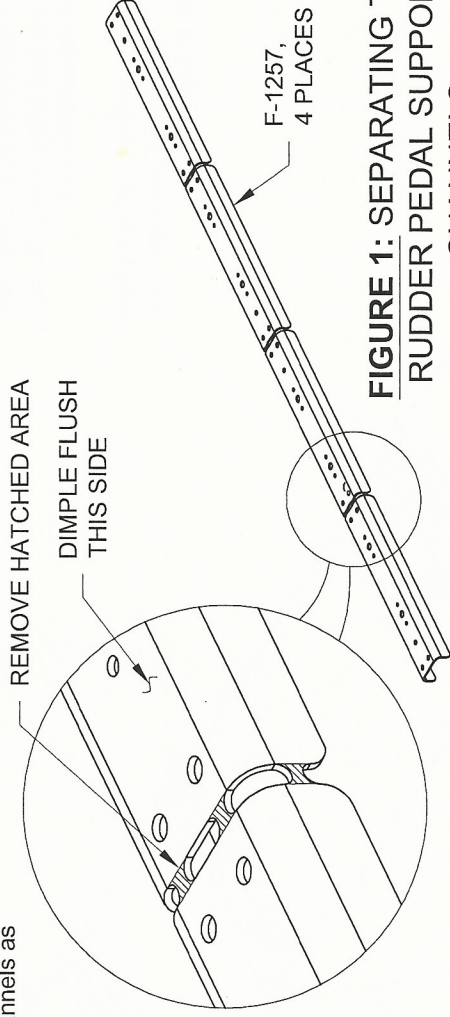

FIGURE 1: SEPARATING THE RUDDER PEDAL SUPPORT CHANNELS
Step 1: Cut apart and deburr the F-1257 Rudder Pedal Support Channels as shown in Figure 1.